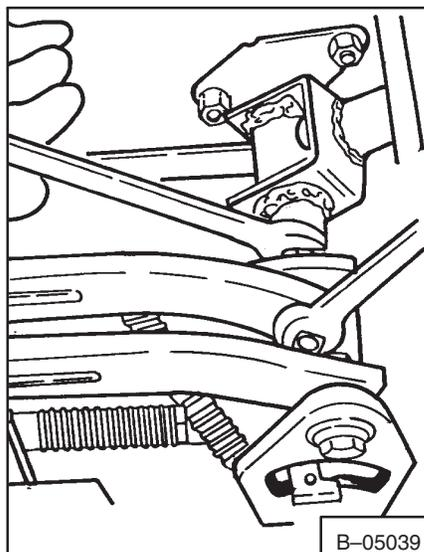

Fig. 3-88 Removing Steering Linkage
5. Remove the steering linkage at the steering levers and pintle levers (Fig. 3-88 & 3-89).